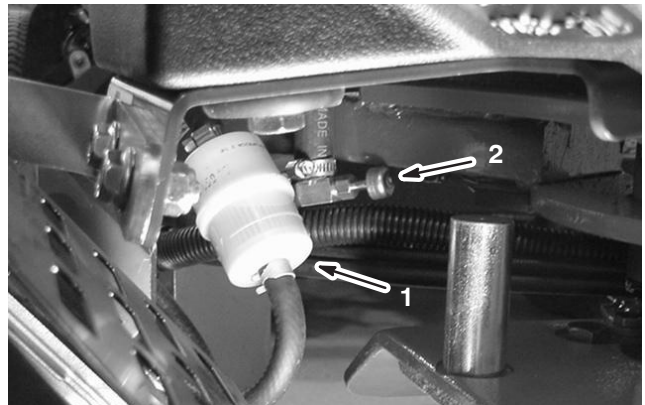

Figure 50
3. Close the fuel shut-off valve (Fig. 50).
4. Squeeze the ends of the hose clamps together and slide them away from the filter (Fig. 50).
6. Install a new filter and move the hose clamps close to the filter (Fig. 50).
8. Open fuel shut-off valve (Fig. 50).
2. Close the fuel shut-off valve (Fig. 50).
3. Loosen the hose clamp at the fuel filter and slide it up the fuel line away from the fuel filter (Fig. 50).
4. Pull the fuel line off fuel filter (Fig. 50). Open fuel shut-off valve and allow gasoline to drain into a gas can or drain pan.
5. Install the fuel line onto the fuel filter. Slide the hose clamp close to the fuel filter to secure the fuel line (Fig. 50).